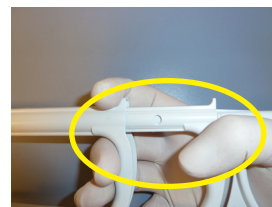
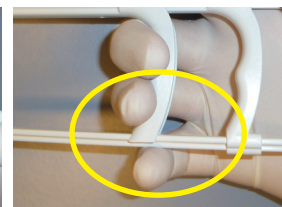

Figure 7
Figure 8
- h) With your hand firmly around the handle assembly, and your thumb in a cocked position, your index finger on the top of the first handle assembly as show in Figure 7 above and your middle and ring finger firmly resting on the middle assembly as shown in Figure 8 slowly pull back on the 1st trigger assembly with a firm non-jerking motion.